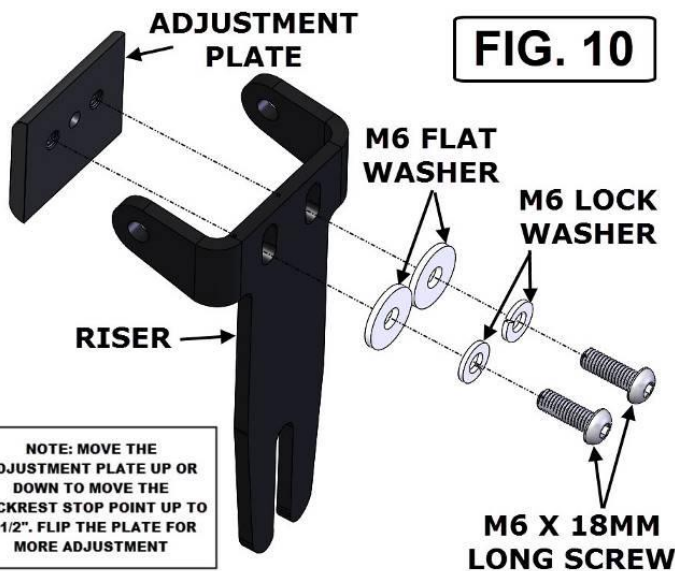

FIG. 10
11. ASSEMBLE THE RISER AND THE ADJUSTMENT PLATE AS SHOWN IN FIG. 10. USE THE TWO M6 X 18MM LONG SCREWS WITH A FLAT WASHER AND LOCK WASHER ON EACH SCREW.